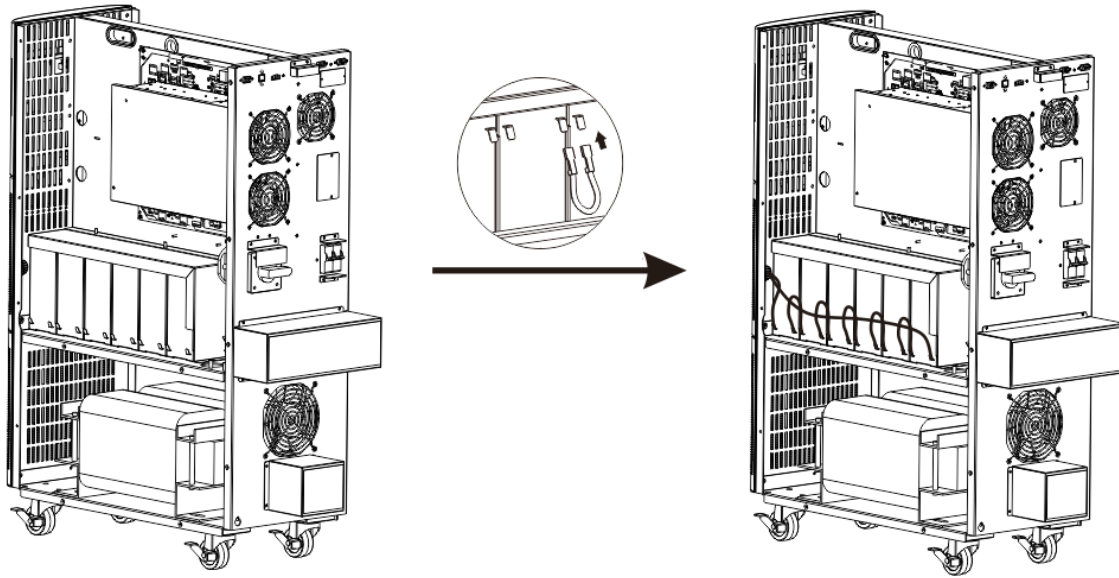

FIG. 13
24. Observer polarity. Re-install all of the battery jumper wires on the left hand side (**FIG. 13**).